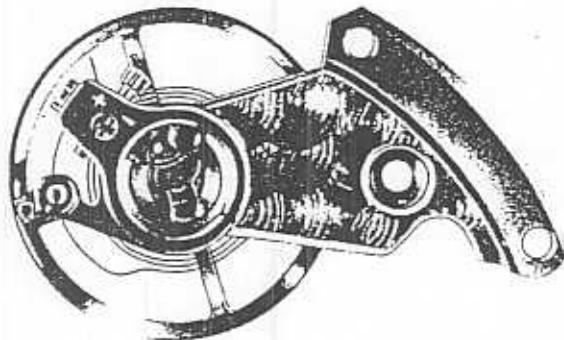

Fig. 3
4. Check the balance and the hairspring. If it has not been done already, bend the end of the hairspring which projects beyond the hairspring holder (Fig. 3), so that its initial length can easily be found again when the movement is reassembled. Untighten the screw (No. 54435) of the hairspring holder (No. 4435). Remove the balance cock and the balance.